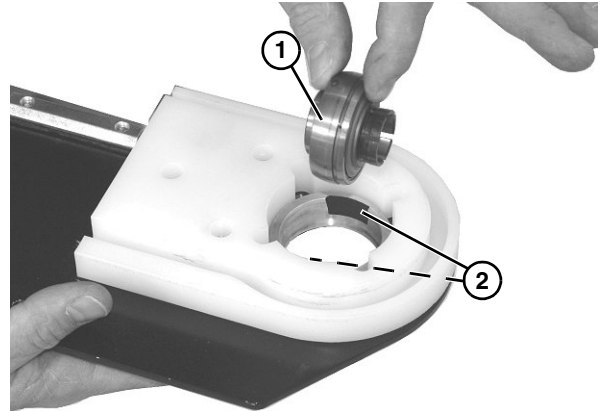

Figure 65
1. Turn bearing (**Figure 65, item 1**) to align with slots (**Figure 65, item 2**) in bearing housing. Then remove bearing.